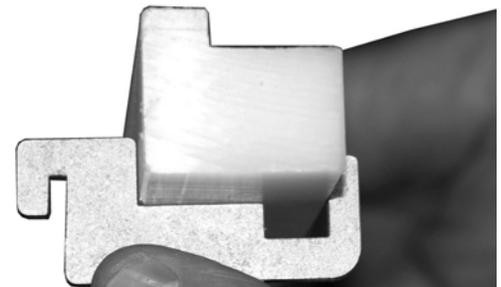

**Figure 23**
2. Install belt return (**Figure 23, item 1**) onto mounting bracket (**Figure 23, item 2**).